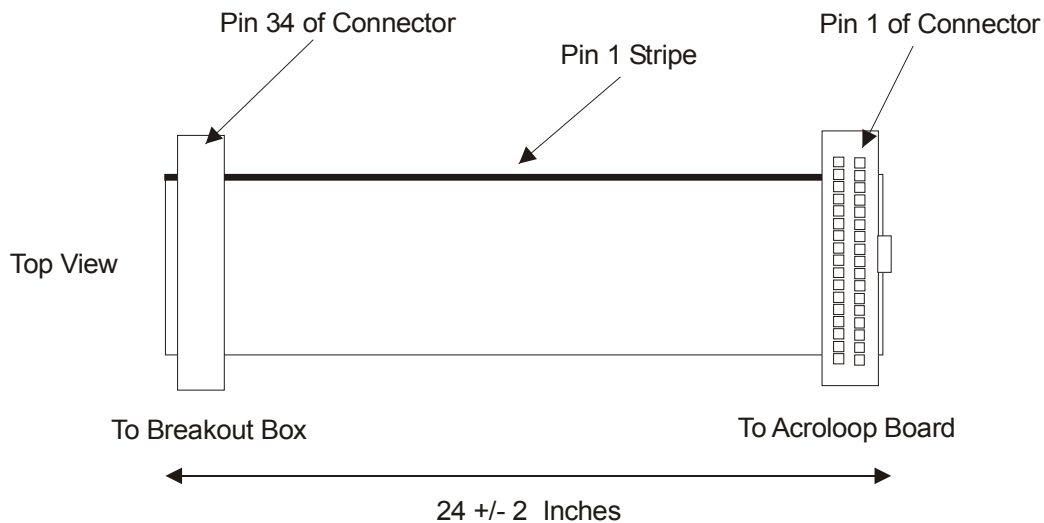

Figure 2. Typical 34-Pin Breakout Box Ribbon Cable
For the ACR8000, ACR8010 and ACR8020, there are up to five (5) 34-Pin ribbon cables supplied (HP1A, HP1B, HP3, HP4, and HP5), depending on the configuration ordered (i.e. 2/4/6/8 Axes). Figure 2 shows a typical 34-Pin ribbon cable.